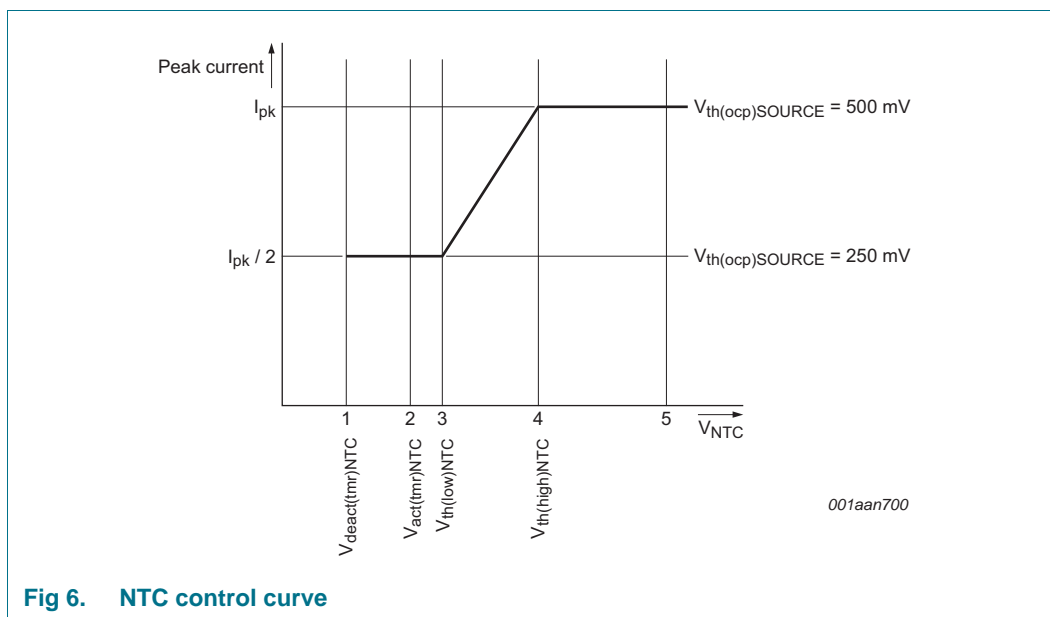

Fig 6. NTC control curve
The NTC pin can be used as a control method for LED thermal protection. Alternatively, the pin can be used as an input to disable/enable light output using a digital signal (PWM dimming). The pin has an internal current source that generates the current of $I_{offset(NTC)}$. An NTC resistor to monitor the LED temperature can be directly connected to the NTC pin. Depending on the resistance value and the corresponding voltage on the NTC pin, the converter reacts as shown in Figure 6.
When the voltage on the NTC pin exceeds $V_{th(high)NTC}$ (see Figure 6 (4)), the converter delivers nominal output current. When the voltage is lower than this level, the peak current is gradually reduced until $V_{th(low)NTC}$ is reached (see Figure 6 (3)). The peak current is now half the peak current of nominal operation. When $V_{act(tmr)NTC}$ is passed (see Figure 6 (2)) a timer starts to run to distinguish between the following situations:
- If the low-level $V_{deact(tmr)NTC}$ is not reached within time $t_{to(deact)NTC}$ (see Figure 6 (1)) LED overtemperature is detected. The IC stops switching and attempts to restart from the HV pin voltage. The converter restarts from an NTC protection shutdown when the voltage on the NTC pin exceeds $V_{th(high)NTC}$ (see Figure 6 (4)). It is assumed that the reduction in peak current does not result in a lower NTC temperature and LED OTP is activated.
- If the low-level $V_{deact(tmr)NTC}$ is reached within the time $t_{to(deact)NTC}$ (see Figure 6 (1)) it is assumed that the pin is pulled down externally. The restart function is not triggered. Instead, the output current is reduced to zero. PWM dimming can be implemented this way. The output current rises again when the voltage is higher than $V_{th(low)NTC}$.
The NTC pin can be used to make a soft start function. During switch-on, the level on the NTC pin is low. By connecting a capacitor (in parallel with the NTC resistor), a time constant can be defined. The time constant causes the level on the NTC pin to increase slowly. When passing level $V_{th(low)NTC}$ (see Figure 6 (3)), the convertor starts with half of the maximum current. The output current slowly increases to maximum when $V_{th(high)NTC}$ (see Figure 6 (4)) is reached.